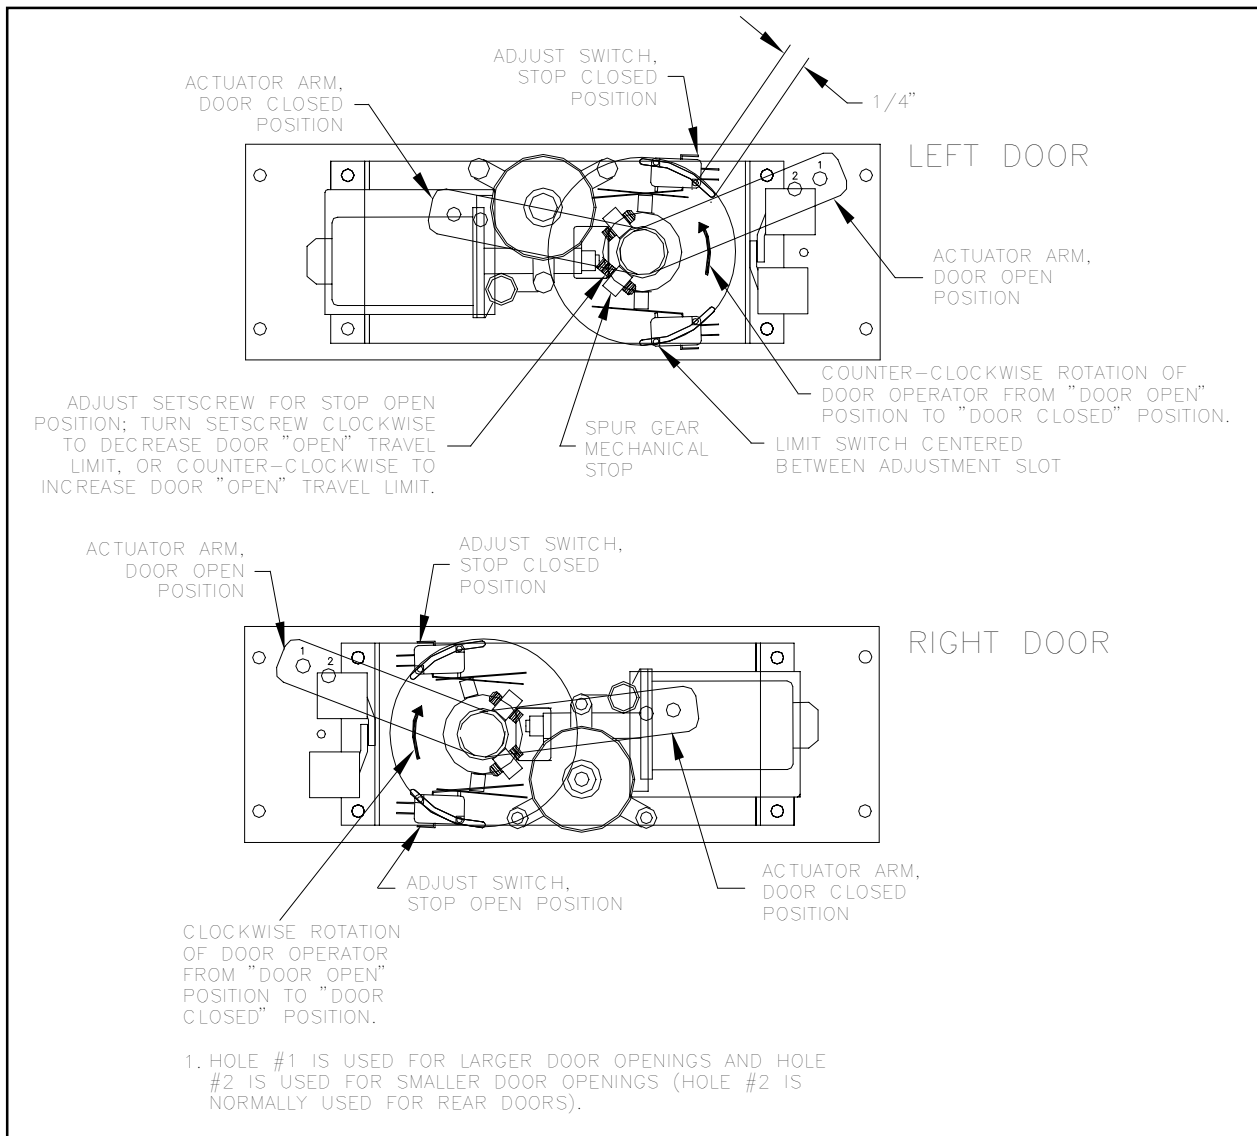

FIGURE 2-3: REAR DOOR OPERATOR ADJUSTMENTS
2. Refer to **Figure 2-3**. With the actuator arm pointing inward INTO the door jamb (the "open" position), the door operator mechanical stop located on the spur gear should make contact with the main plate adjustable setscrew. If not, with the "open" limit switch mounting position centered between its adjustment slot, turn setscrew clockwise to decrease the "open" door travel limit, or counter-clockwise to increase the "open" door travel limit.
3. Deploy the platform or ramp with the control pendant. Verify proper "door open" position of the power door operator (the actuator arm is pointing inward INTO the door jamb as shown in **Figure 2-3**) and readjust set-screw as required. When open, the vehicle doors must allow the platform or ramp to deploy without interference of any kind.
4. Stow the platform or ramp with the control pendant. Verify proper "door closed" position of the power door operator (the actuator arm is pointing outward AWAY from door jamb as shown in **Figure 2-3**).